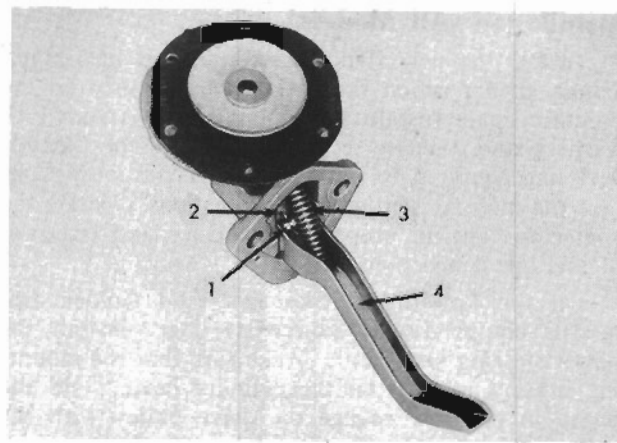
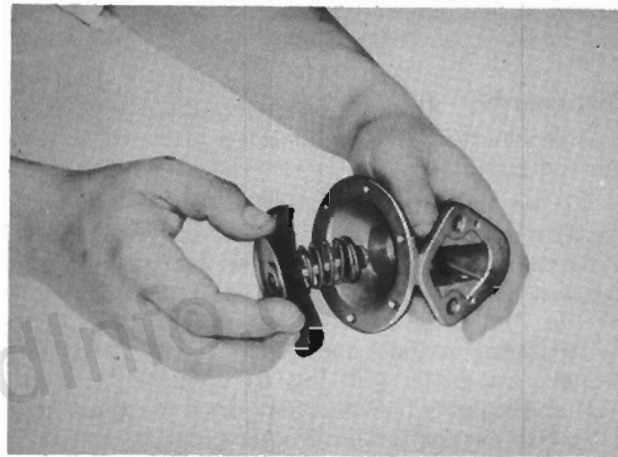

FIG. 10
FIG. 11
Remove the cam lever pin plug. Remove the cam lever return spring (3, Fig. 10), pin retainer (2), cam lever pin (1), and cam lever (4). Remove the diaphragm assembly from the pump body (see Fig. 11).